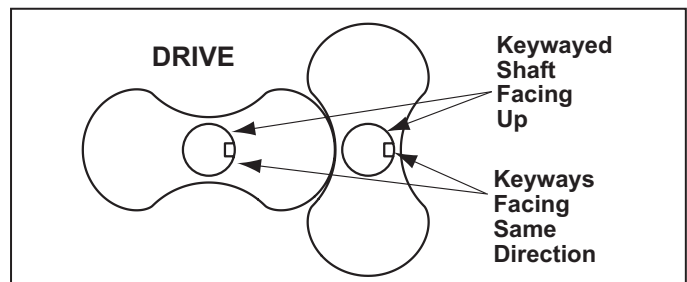

Figure 7 - Keyways
3. Stand rotors [1] on arbor press table with gear end shafts up. See Figure 7. Two keyways should point in the same